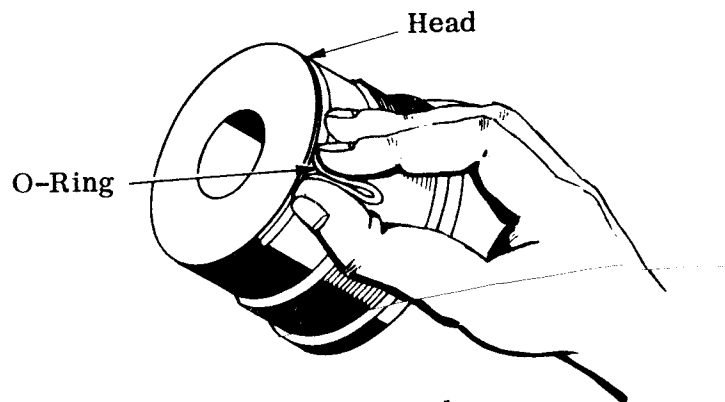

Figure G-3. O-Ring Removal
10. Work a slack section into the head seal static o-ring (No. 6) and pick it up out of the groove (Figure G-3). Lift the static back-up out of its groove with the needle-nose pliers.